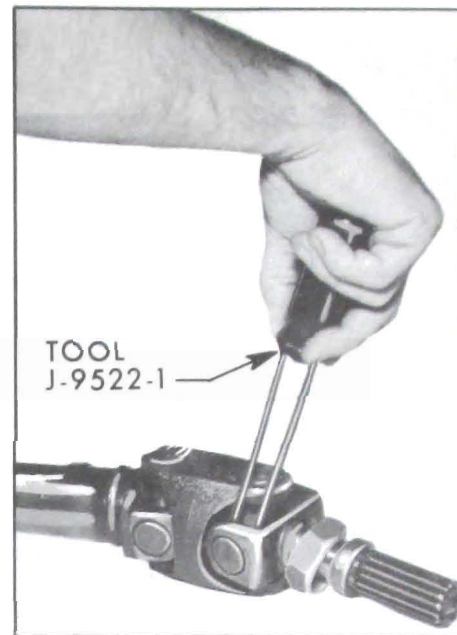

Figure 6-56—Removing Snap Rings From Propeller Shaft
1. Remove snap rings from the bearings. The snap rings are on the inside of the link yoke and can be removed with the assistance of Tool J-9522-1. See Figure 6-56.